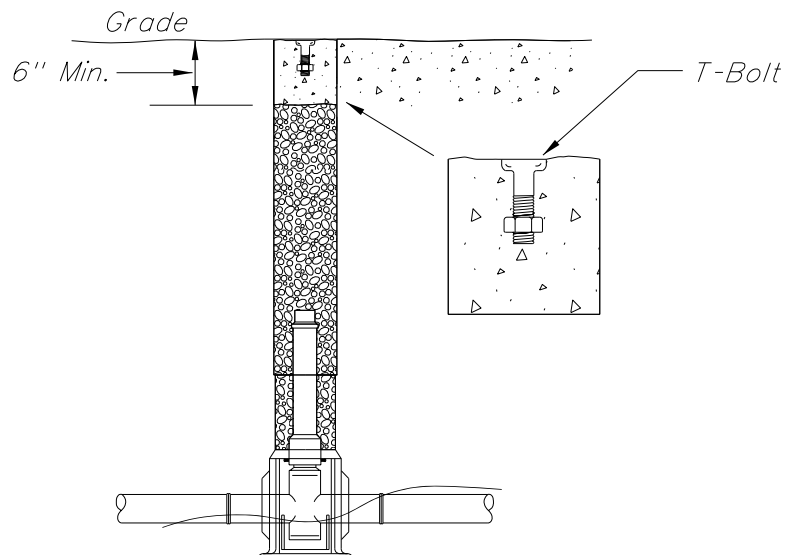

Fig. 4
3. Insert a T-Bolt and nut into the concrete with the head of the T-Bolt flush with top of the concrete. The T-Bolt will denote the valve box has been intentionally abandoned by the District and not inadvertently filled with concrete by others. See Fig. 4.